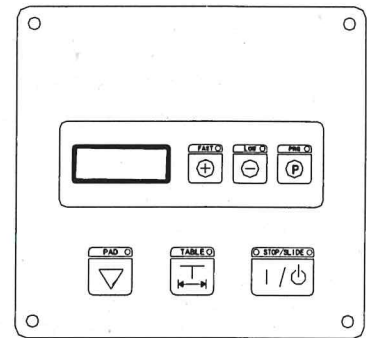

Figure 8
(2).2-color with shuttle such as SPC-824SE(see figure 8)